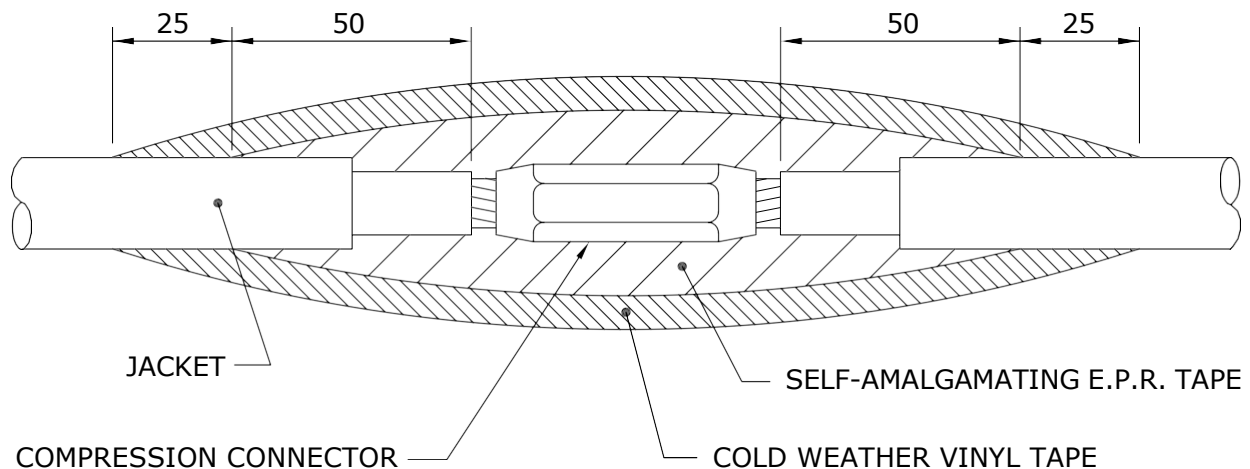

FIGURE 2
1. APPLY 3 LAYERS OF SELF-AMALGAMATING ETHYLENE PROPYLENE RUBBER (E.P.R.) TAPE (S.C.#78 55 23) AS PER FIGURE 2.
2. APPLY 2 LAYERS OF COLD WEATHER VINYL TAPE (S.C.#78 55 98) AS PER FIGURE 2.